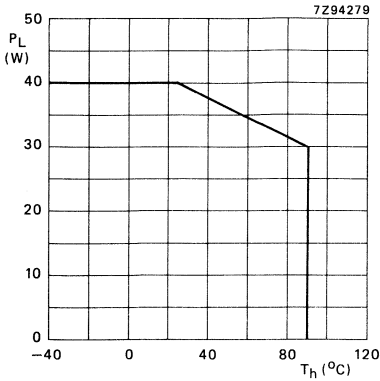

Fig. 2 Load power derating.
* With respect to the flange. ** See Fig. 2.